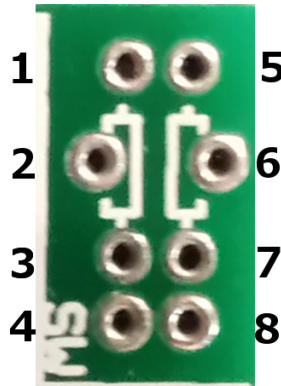

Figure 7.2: Terminator PCB
- a) (2) 2" (5 cm) lengths of orange wire.
- b) (2) 2" (5 cm) lengths of blue wire.
- c) (1) 2" (5 cm) length of green wire.
3. Refer to the diagram in Figure 7.2. Solder an orange wire to hole #2.